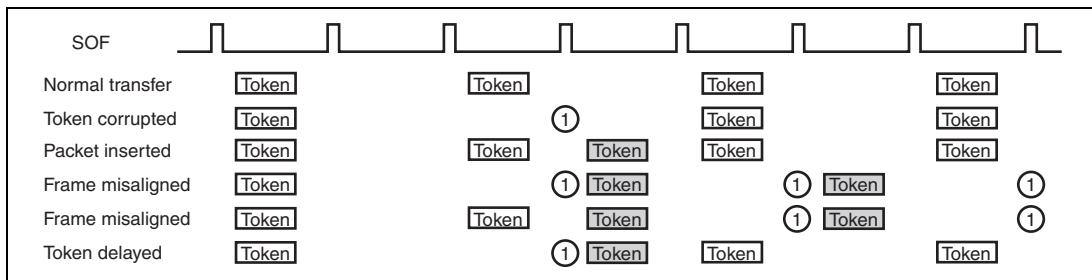

Figure 17.18 Example of an Interval Error Being Generated when IITV = 1
Figure 17.18 shows an example of this module generating an interval error. There are five types of interval errors, as shown below. The interval error is generated at the timing indicated by (1) in the figure, and the IN buffer flush function is activated.